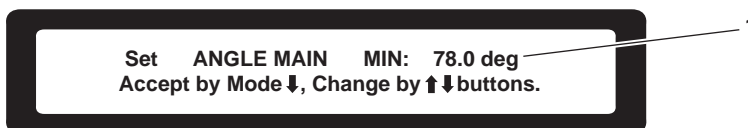

Figure 38. Maximum Angle Alarm Setting Screen
5. Press the MODE button (figure 17, item 3) and the down arrow button (figure 17, item 4) on the LMI receiver panel (figure 17, item 2) to reach the maximum angle alarm setting screen (figure 38).
6. Press the down arrow button (figure 17, item 4) or the up arrow button (figure 17, item 5) on the LMI receiver panel (figure 17, item 2) until the readout (figure 38, item 1) displays the angle value desired.